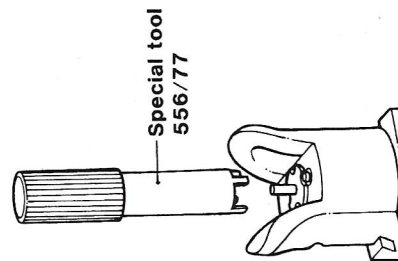

FIG. 6. KEY
- 3.1.3.5 A special tool can be provided for this task. (Parker-Hale part no. 556/77 Fig 6)